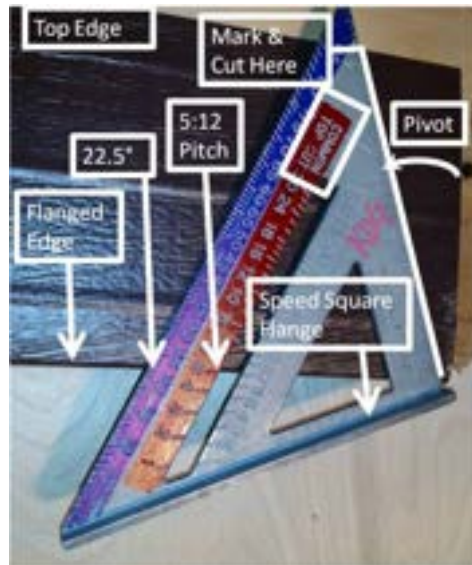

Figure 11-25. Marking Gable Eave End Fascia Angle.
8. Position the flange of a speed square along the soffit flange (or along the edge where the LONG point will be) as seen in Figure 11-25. With the square corner of the speed-square against the edge at the length desired, pivot the speed-square at the 90° corner until the "5" on the "Common/Top Cut" (red) scale is aligned with the same edge (e.g. flanged edge). Draw a line along the short edge of the speed square on the face of the fascia.